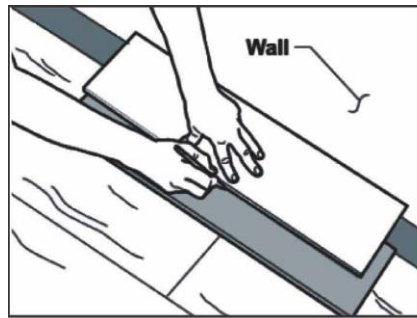

Fig. 1-1
- 1-1 Start with groove side of boards facing starting walls. If starting wall is not square or is otherwise irregular, scribe the first row (Fig. 1.1), then cut boards to match variation in wall.
Since last row will generally not fit perfectly, scribe row as shown in Fig. 1.1, remembering to allow adequate expansion gap. Engage all seams with Last Board Puller. Ensure last row is over 1.5 inches wide.